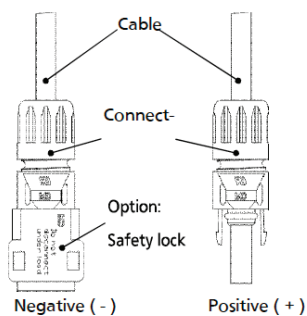

Figure 2. Connectors
- To ensure connector compatibility and reduce the potential for damage to the modules and the wider installation, the connectors used on the EverVolt modules are detailed in the Figure 2. Only permitted the mating of factory-installed connectors to connectors of the same manufacturer, type, and system rating as shown in the table below (Table.2).
Once a module is secured in each of the 4 zones (fig. 2), additional clamps, i.e., >5 may be freely located on panel frame without affecting the warranty. Loads marked with a * were not certified as part of UL 61730 testing; these have been evaluated by internal testing process.
<p>Once a module is secured in each of the 4 zones (fig. 2), additional clamps, i.e., ≥ 5 may be freely located on panel frame without affecting the warranty. Loads marked with a * were not certified as part of UL 61730 testing; these have been evaluated by internal testing process.</p>